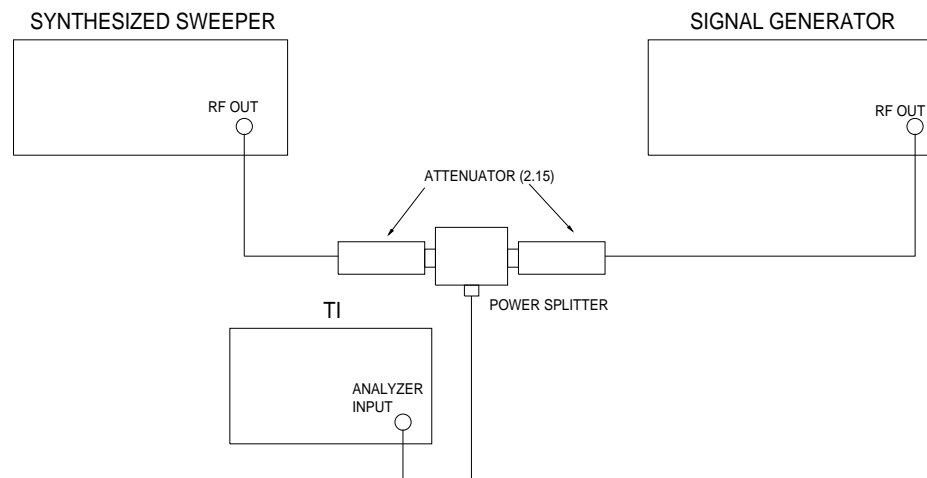

Figure 7.
- 4.17.2 Connect equipment as shown in Figure 7.